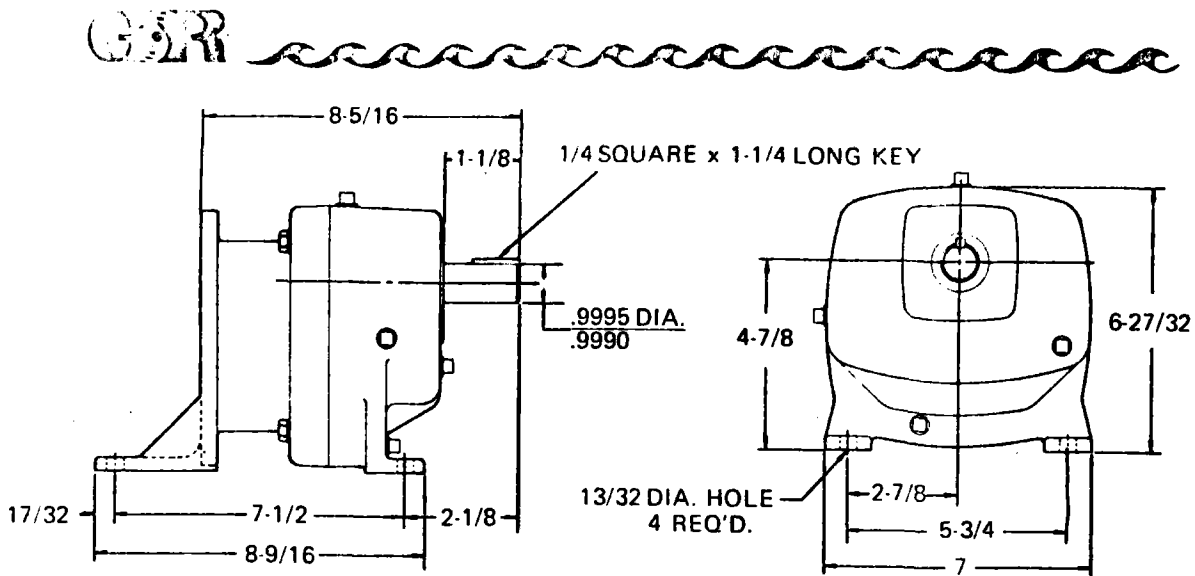

Figure 3. Speed Reducer Mounting Dimensions
- e. Push the motor shaft into the shaft sleeve, and align mounting holes (2) in the speed reducer with the corresponding holes in the motor. Secure the speed reducer to the motor with four lockwashers (3) and cap screws (4) supplied with the speed reducer. Start the two upper screws, but do not tighten. Install the two lower screws and tighten finger tight. Tighten the upper two screws, then retighten all four screws evenly and alternately around the mounting flange.
- g. Install the assembled motor and speed reducer on a suitable base or support. Mounting dimensions are shown in figure 3.